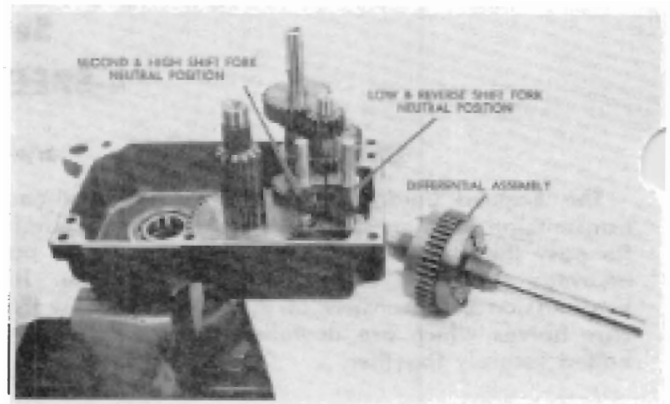

FIGURE 4
9. Lift out the axle and differential assembly. Figure 4. Note: If only the differential is to be overhauled the transmission need not be further disassembled. See Differential Overhaul Section.